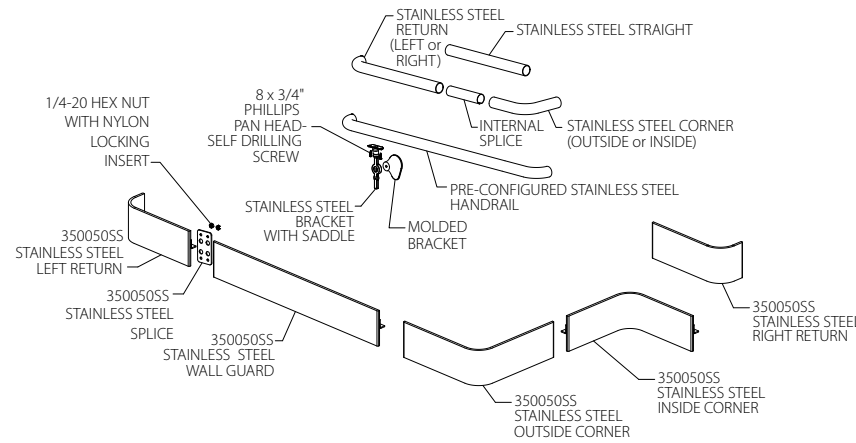

FIG. 1
1. Locate brackets 7" (178mm) from the end of the return and spaced a maximum of 32" [813mm] (813mm). Using a bracket extension as a template, mark and drill holes on the bottom of the stainless steel handrail for the bracket saddle. See Fig. 1. Drill holes with a High-Speed Steel Jobbers' Drill Bit for Stainless Steel. McMaster-Carr #3020A14, 9/64" [3.5mm] drill bit. (Inpro supplied).